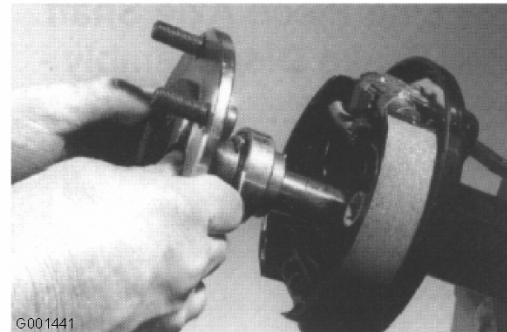

Figure 14
1. Install the axle shaft in the axle tube, being careful not to damage the seal (Figure 14).